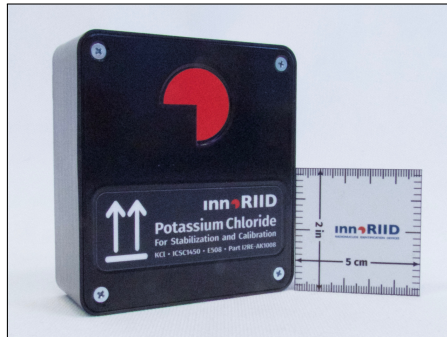

Figure 17: Box with potassium chloride (KCl) for stabilization and calibration
2. Position the supplied KCl (pottassium chloride) box (Fig. 17, p. 29) in front of the detector cap if your RADEAGLE has no built-in source.